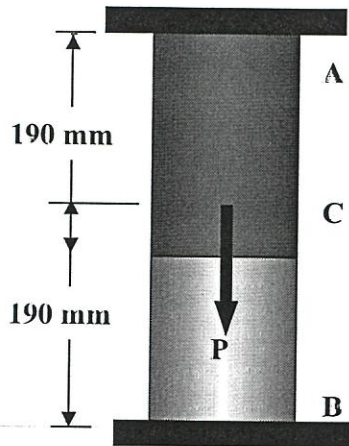

Figure Q2
- Q2** Rod AB consists of two cylindrical portions AC and BC, each with a cross-sectional area of 1750 mm^2 . Portion AC is made of a mild steel with $E = 200 \text{ GPa}$ and $\sigma_y = 250 \text{ MPa}$, and portion BC is made of a high-strength steel with $E = 200 \text{ GPa}$ and $\sigma_y = 345 \text{ MPa}$. A load P is applied at C as shown in **Figure Q2**. If P is gradually increased from zero until the deflection of point C reaches a maximum value $\delta_m = 0.3 \text{ mm}$ and then decreased back to zero.